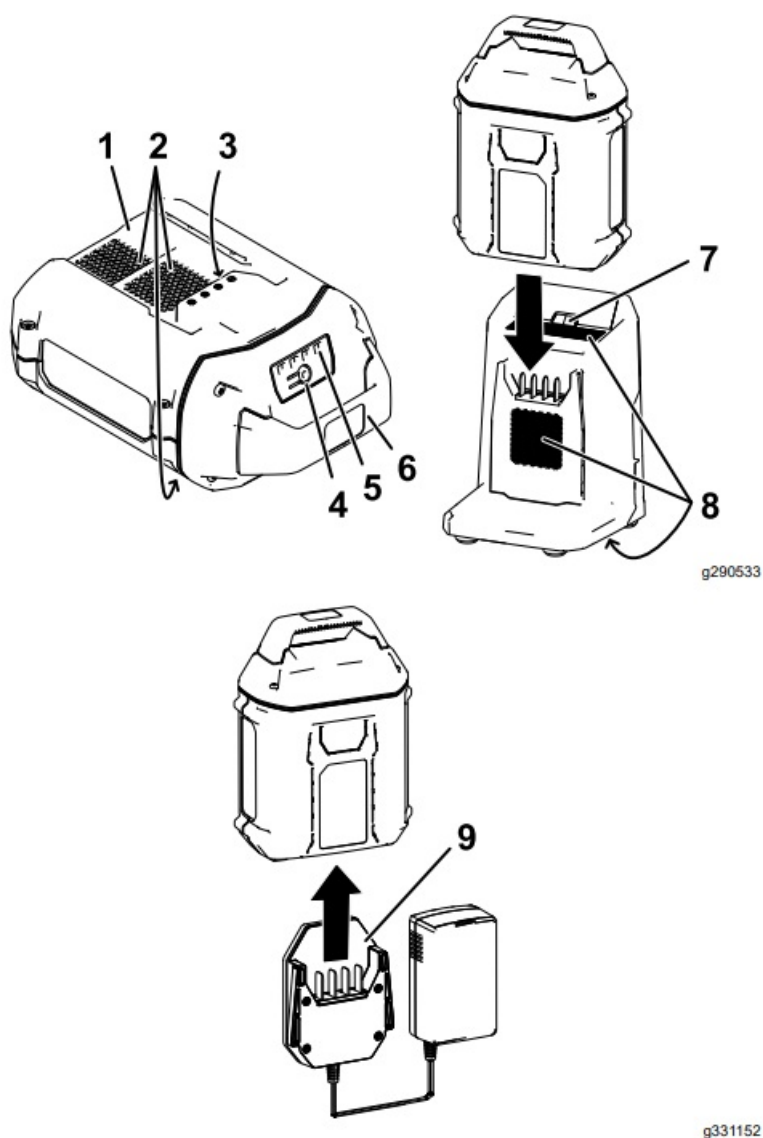

Figure 12
2. Line up the cavity in the battery pack (Figure 12) with the tongue on the charger.
3. Slide the battery pack into the charger until it is fully seated (Figure 12).